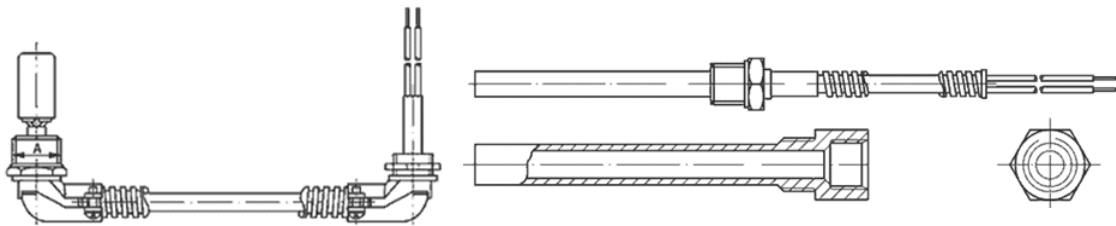

Figure 22: Crankcase heater 27W, 70W and 100W
- The internal crankcase heater for K compressors is a self-regulating 27-Watt PTC heater (see **Fig. 22**).
- Heaters for D3, 3D, D4 and D6 compressors are screwed into a sleeve (see **Fig. 22**).